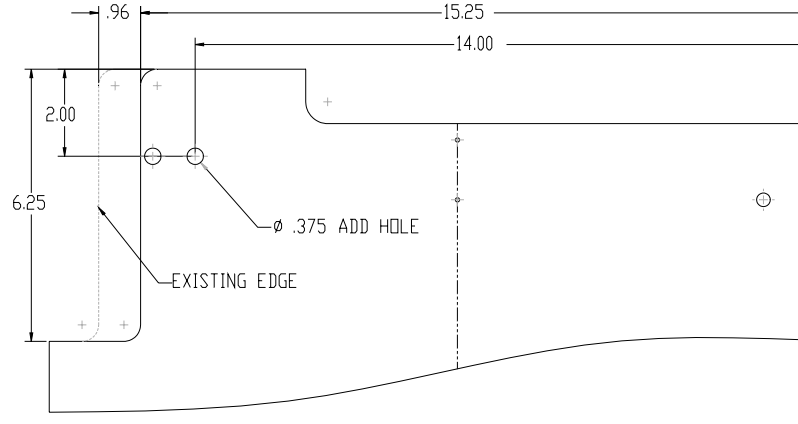

Figure 2, 3-1498 Skin Cutout
9. If metal belly installed, modify 3-1498 skin per figure 2.